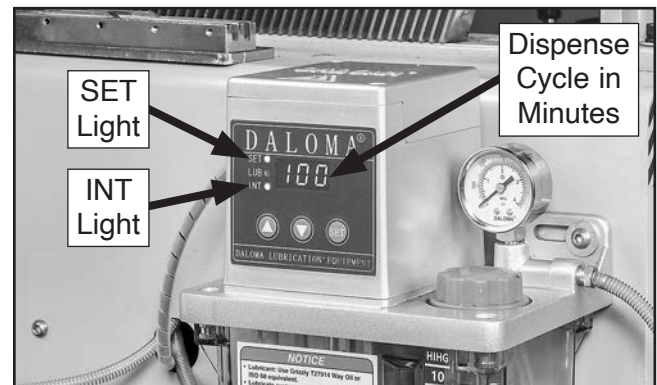

Figure 137. Setting oiler dispense cycle.
5. Verify SET and INT status lights illuminate and oil dispense duration (in minutes) is displayed on digital readout (see **Figure 137**). Set desired values using ▲ and ▼ buttons on oiler controls.